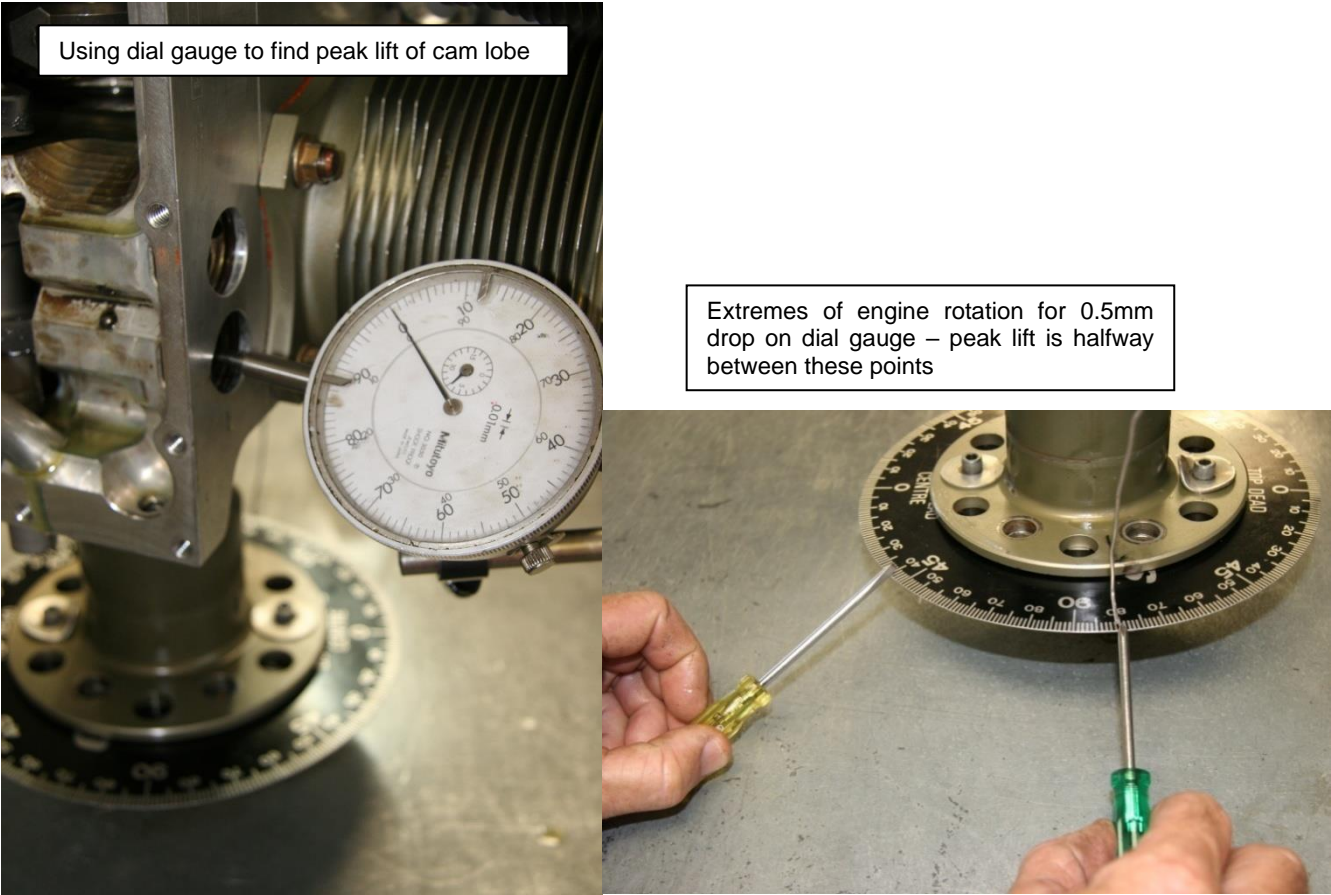

Figure 170 – Checking Cam Timing #1
- For a hydraulic lifter engine – for measurement purposes – fit a hydraulic lifter to the lowermost port of the engine (as shown in Figure 170 – alternatively a special tool such as that shown in Figure 29 can be used).